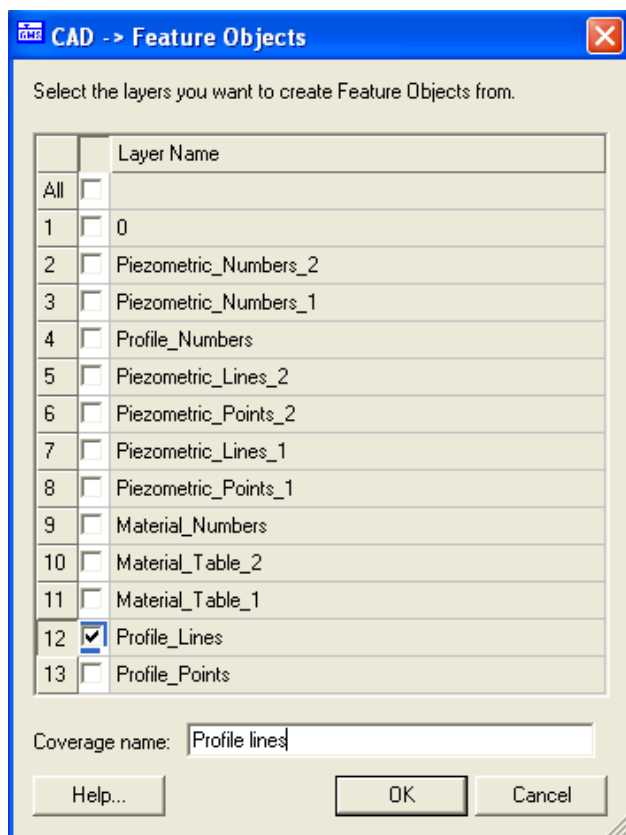

Figure 3. CAD -> Feature Objects dialog.
2. In the *CAD → Feature Objects* dialog, uncheck all the layers except for the *Profile\_Lines* layer. Also change the *Coverage name* to **Profile lines**. The dialog should look as shown in Figure 3 below.